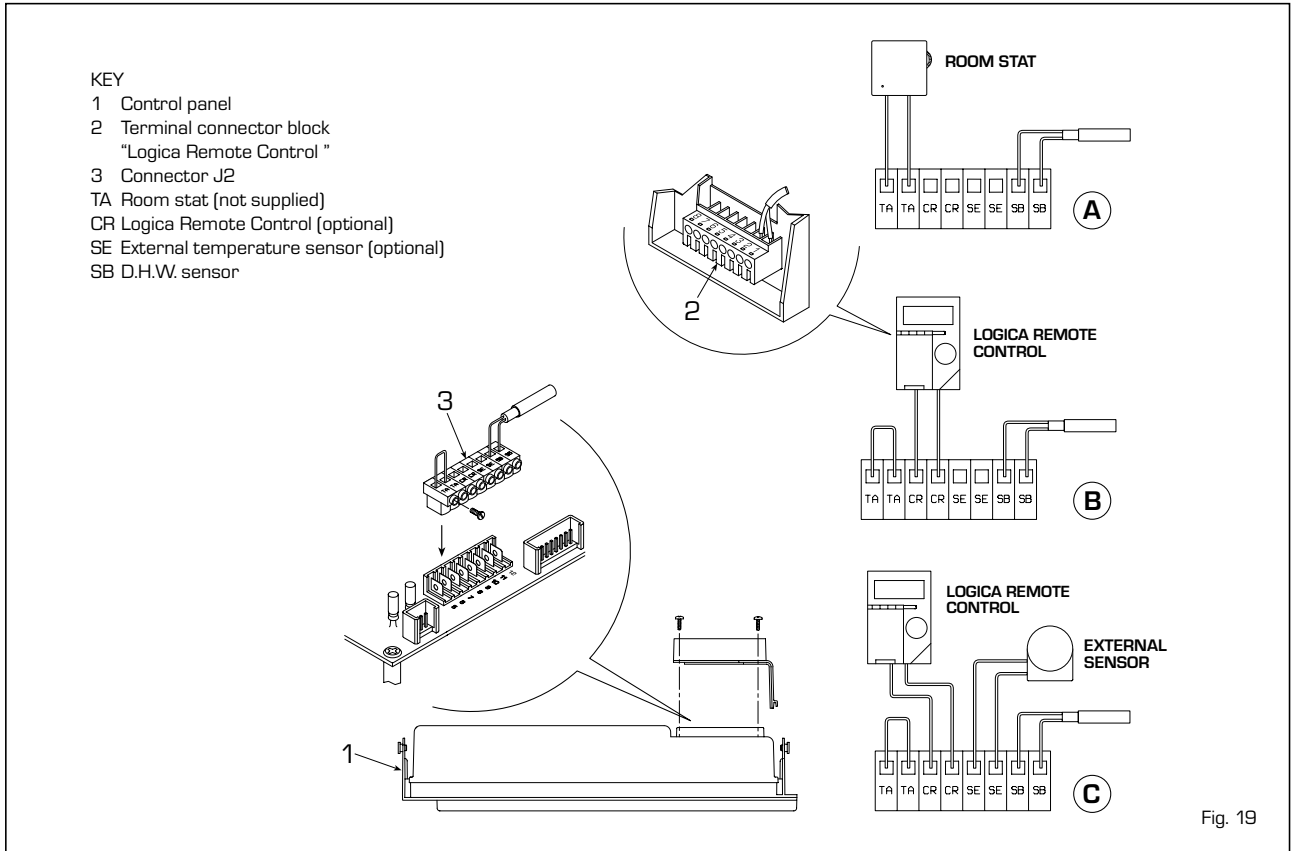

Fig. 19
To gain access to the TA-CR-SE-SB [J2] electronic board connector, remove the control panel cover and connect the room stat to the terminals 5-6 after having removed the jumper (fig. 19).
3.9.2 Connection "Logica Remote Control" (fig. 19 pos. B)
3.9.3 Connection external temperature sensor (fig. 19 pos. C)